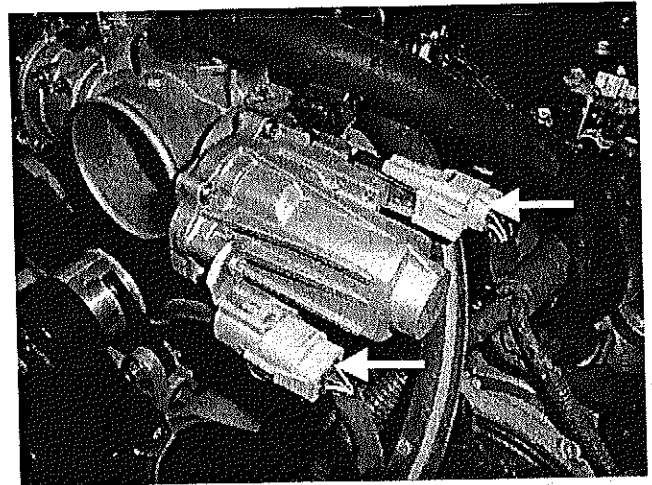

Figure 4
7. Remove the throttle position sensor and throttle control motor connectors from the throttle motor (Figure 4).